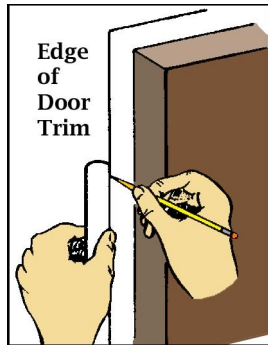

Figure 6
- **Step 6** Mark the body tube for six fins and the launch lug, using one of the cardstock alignment guides as a locator. As shown in Fig. 6, use the trim around a door, or a length of brass angle stock, to extend the alignment lines along the tube. The main fins extend 5” from the rear edge of the tube, the vertical fins and the subfins extend 3.5” from the edge, and the top of the launch lug should be 5” from the edge of the tube. The bottom edge of the launch lug is 2.25” to the rear of the 5” location. Mark the alignment lines at these locations.